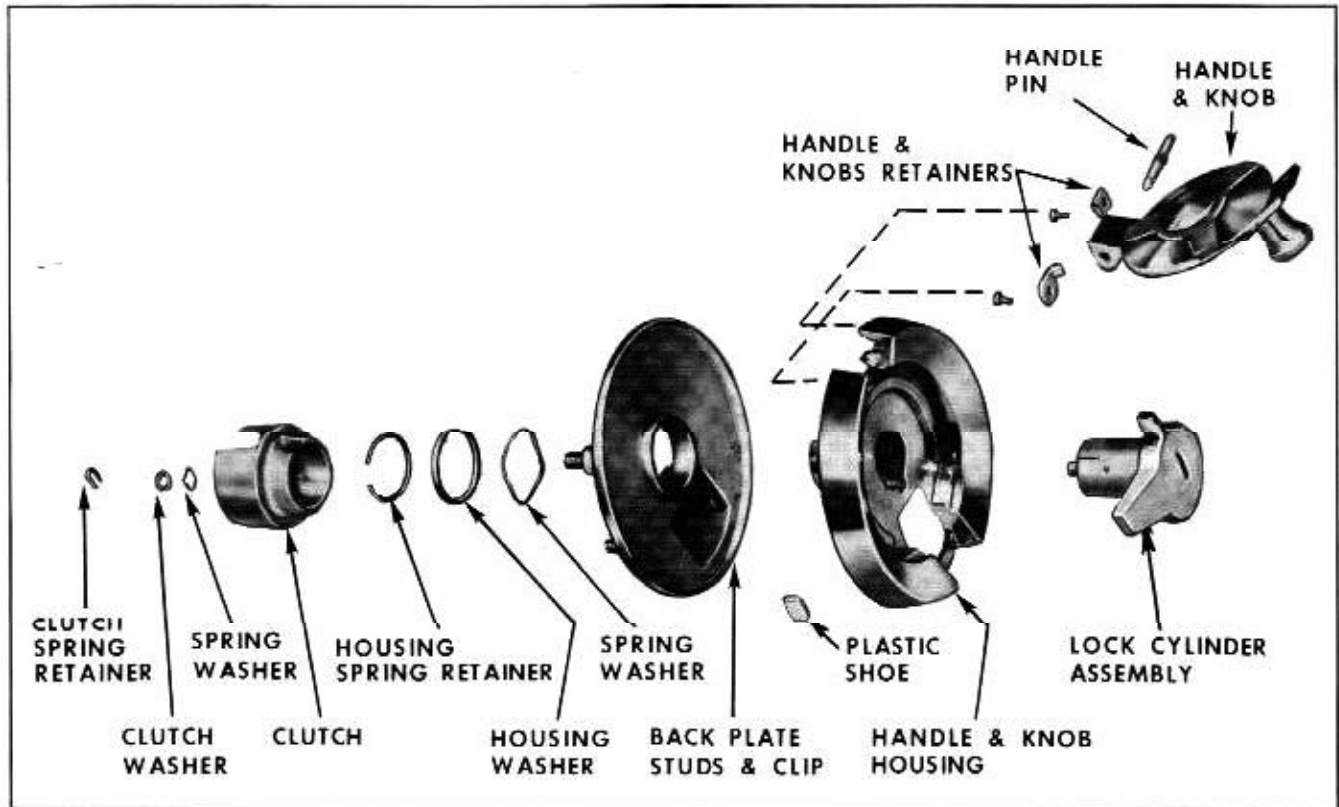

Fig. 17-193 Window Regulator Outside Handle Assembly
Disassembly and Assembly (Fig. 17-193)
2. Using an awl, remove clutch spring retainer; then remove clutch washer and spring washer, and remove clutch and lock cylinder assembly from unit. (Fig. 17-193)
NOTE: Plastic shoes can be removed from handle and knob housing by carefully prying shoes from housing. (Fig. 17-193)
- Using an awl, remove clutch spring retainer; then remove clutch washer and spring washer, and remove clutch and lock cylinder assembly from unit. (Fig. 17-193)